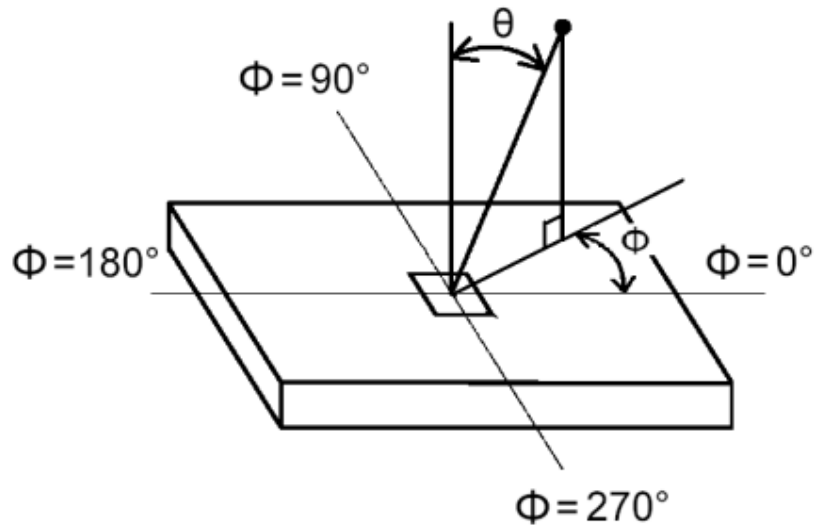

**FIG.3 Response Time**
3. Response time is the time required for the display to transition from to black (Rise Time,  $T_{R}$ ) and from black to white (Decay Time,  $T_{D}$ ). For additional information see FIG3.